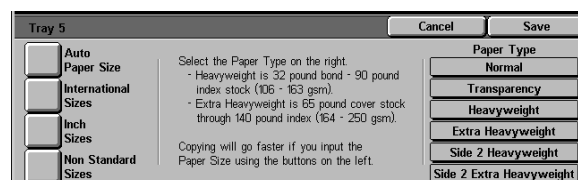

Figure 26: Tray 5 Auto Paper Sizes
- Touch **Auto Paper Size** and select one of the paper types as shown in Figure 26.